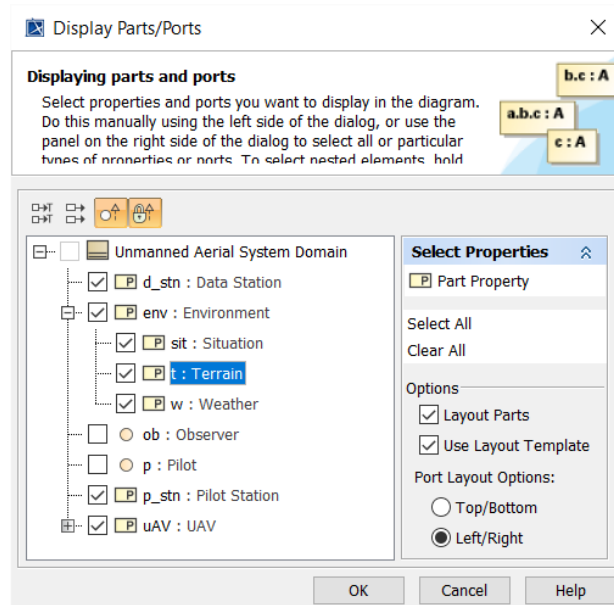

Figure 1 Select Parts for UAV Mass PAR
- In the **Select Parts** window, check the part properties as shown in Figure 1.